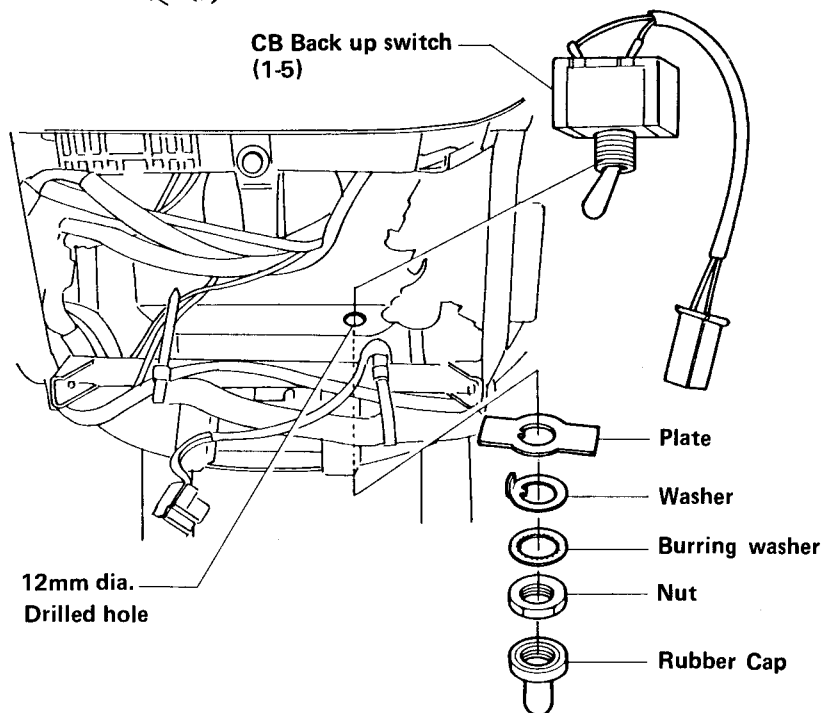

Fig. 14-3
- 5) Drill a 12mm dia. hole through the plastic inner cowling cover above the horn as shown in Fig. 14-3.